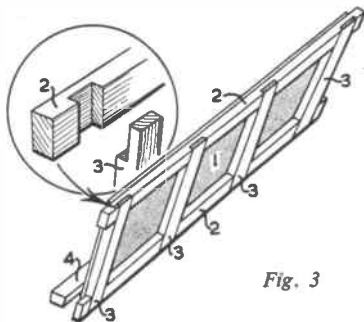

Fig. 3
$\frac{1}{2}$ in. hardboard. Fig. 3 shows how the framework is halved together with the hardboard pinned behind. The diagram also shows an enlarged view of the halving joint. The runners (4) are $1\frac{1}{2}$ in. by 1 in. and are chamfered as shown in the end view. All pieces are screwed and glued together.